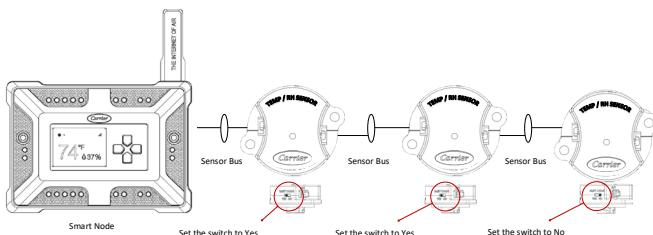

Figure 4
2. Power to the Duct Sensor is provided through this cable; no external power wiring is required. If an additional Duct sensor needs to be connected, connect the other Sensor Bus cable to one end of the OUT port of the Duct Sensor and the other end to the IN port on the Duct Sensor. See Figure 4 for connections.
4. To enable Multiple Duct Sensor communication, the *Daisy Chain* switch must be set to *Yes*. When there is no requirement for additional sensors to be connected to the OUT port of the DPS, the *Daisy Chain* switch must be set to *No*. See Figure 4.